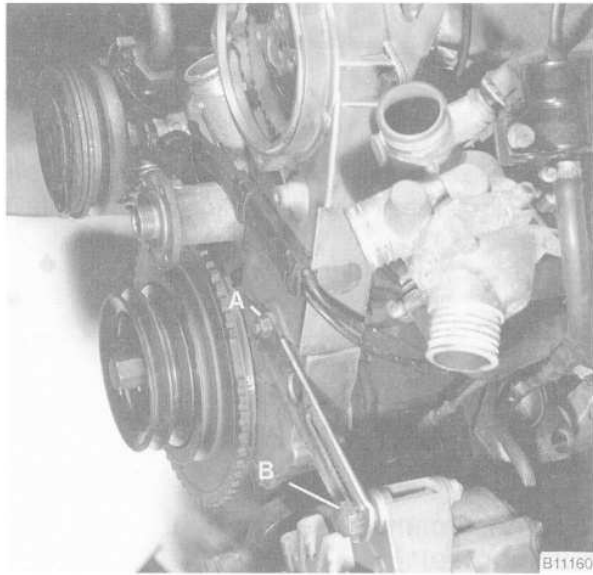

Fig. 2. Remove alternator bracket by removing mounting nut (A) and alternator tensioning bolt (B).
7. Remove the alternator bracket from the upper drive belt cover. See Fig. 2.